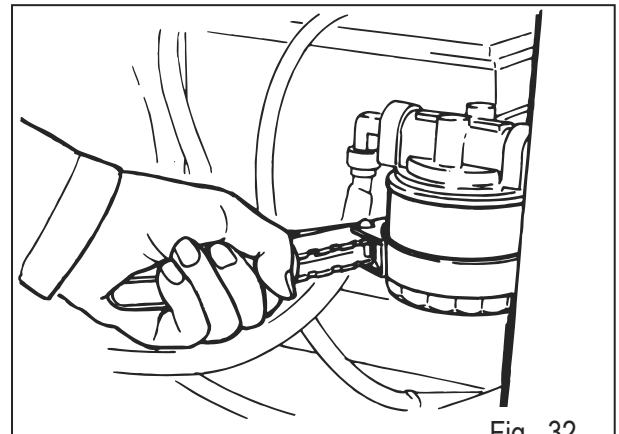

Fig. 32
a) Oil filter replacement (Fig.32)